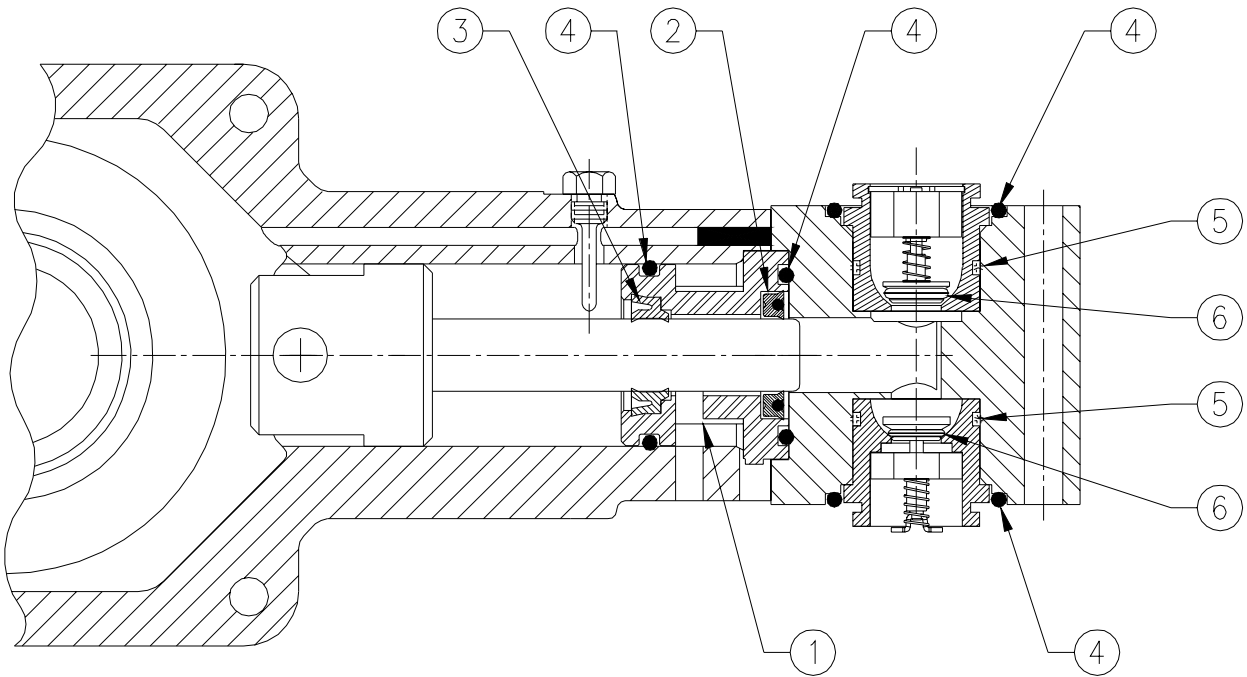

FIGURE 6
- 5) Remove and inspect face and body seal sleeve o-ring (Item 4, Figure 6). Replace if necessary.
- 7) Install new seal kit. **NOTE:** The lip portion of both seals must face out. Care must be taken with the oil seal, so that its outside diameter is fully seated under the retaining lip of the sleeve (See Figure 6).
- 9) Apply a light coat of grease to the sleeve body o-ring and end of piston. Carefully push the seal sleeve assembly onto piston. Once piston end is past oil seal lip, rotate to see that it is not rolled under. The slot on seal sleeve must face down. Push the sleeve body all the way into housing (See Figure 6).